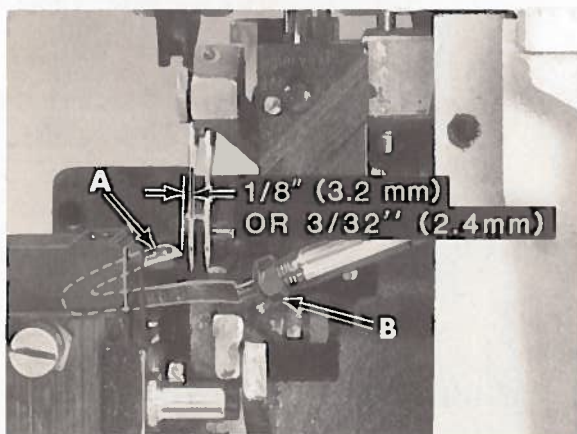

Fig. 8
If adjustment is required, position looper/spreader (A, Fig. 8) to extreme right and loosen clamp nut (B). Position looper/spreader to EXTREME left end of travel and adjust same in or out of looper/spreader shaft to obtain specified dimension.